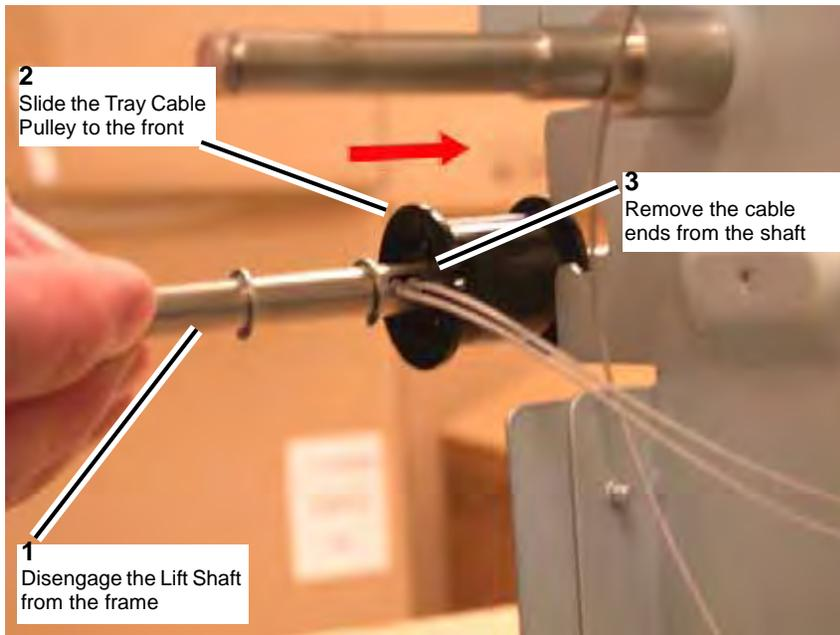

Figure 4 Releasing the Cable ends from the Lift Shaft
- When both sections of the cable are slack, disengage the Lift Shaft from the frame and slide the Tray Cable Pulley to the front of the Lift Shaft to release the Rear Lift Cable ends that are trapped in the pocket underneath the Tray Cable Pulley (Figure 4).